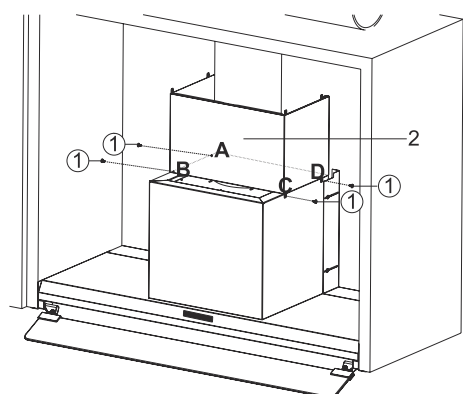

Fig. 14
5. ➔ Place the supplied sheet metal flues on the product (Fig. 14).
Using the 4 connection screws through the A, B, C, D points to the appliance body (Fig. 14).